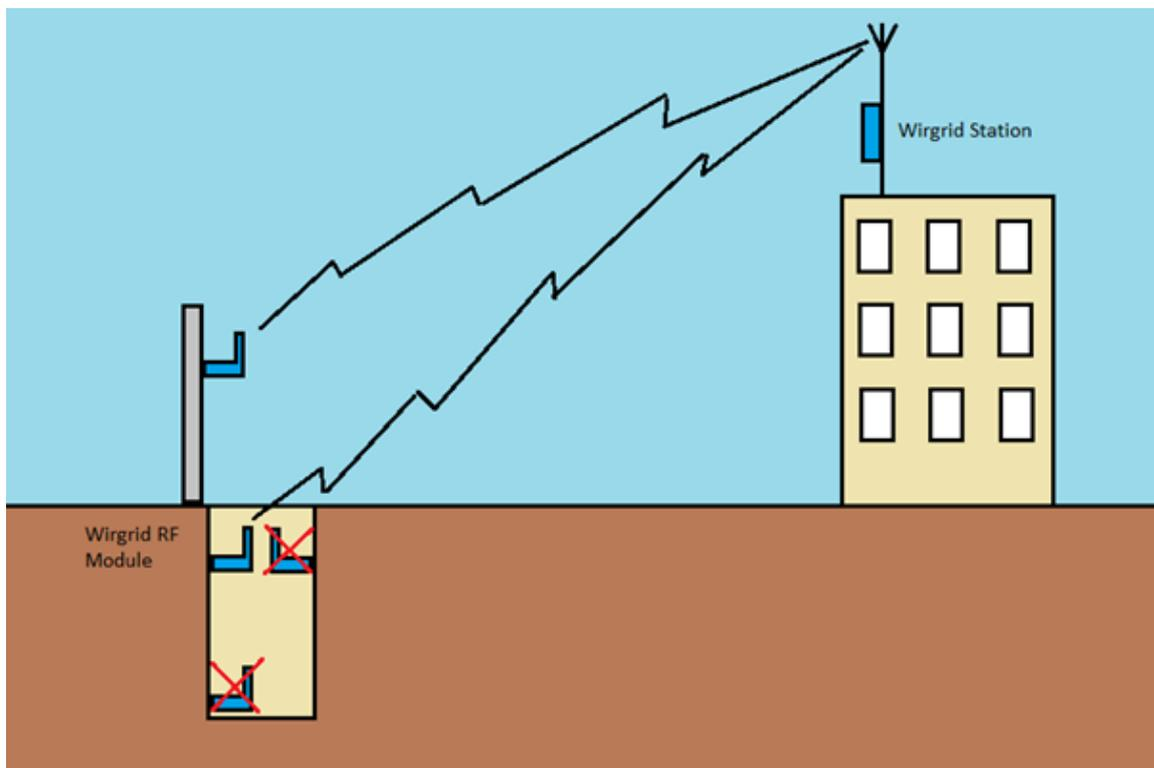

Figure 8: Optimized position of the Wirgrid RF Module 169MHz
- The antenna side of the Wirgrid RF Module 169MHz must be oriented to the Wirgrid Station (see Figure 8) to have the better gain. The other positions may be possible but the antenna performance may be a little bit lower.
- If the Wirgrid RF Module 169MHz must be installed in a water pit, then install it as high as possible, close to the lid. However, beware of the metal parts as explained before! See Figure 8.